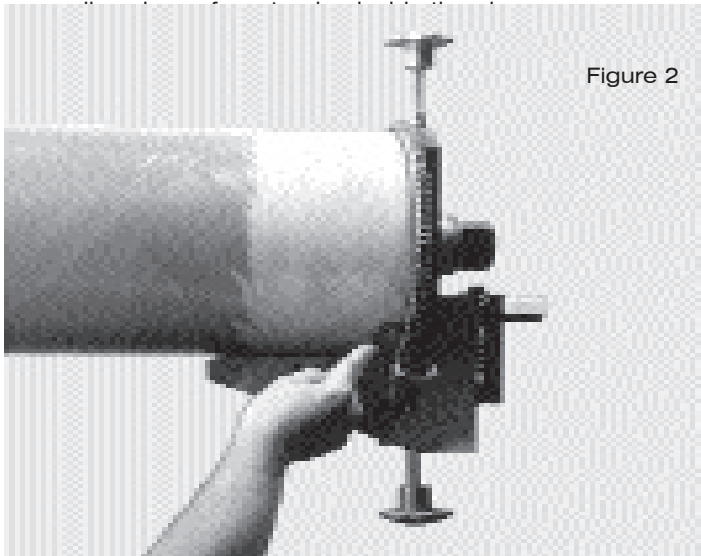

Figure 2
2. Insert the tool into a piece of pipe with a factory taper. The small shoulder on the mandrel should butt against the end of the pipe. (See Fig. 2.)